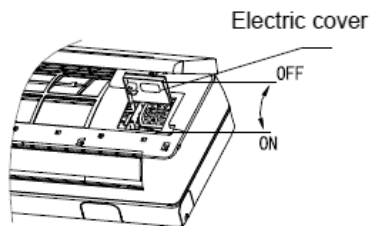

Fig. 13
- Loose the screw at connection lid (Fig. 13).